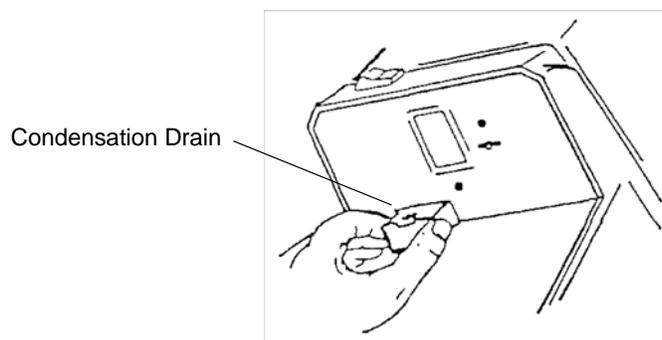

Figure 8
1. To remove the condensation drains, push in on the front panel, just under the drain and pull down with fingers, as shown in Figure 8.